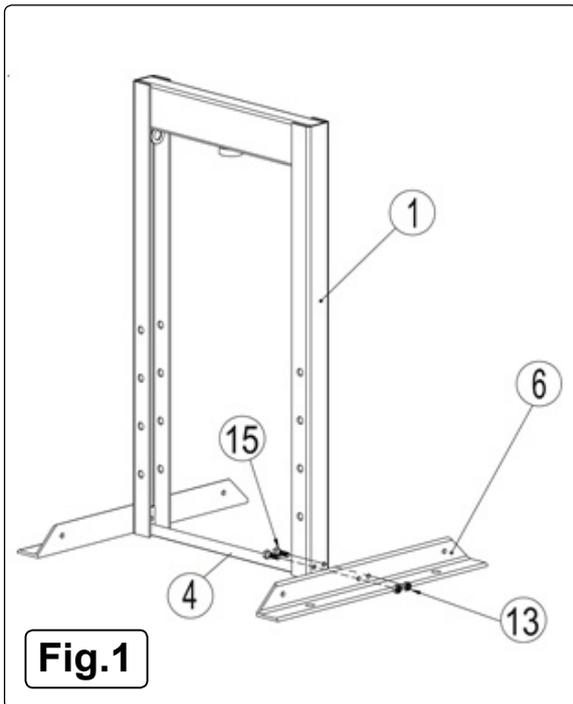

Fig.1
5.2. **Attach feet assembly fig.1**